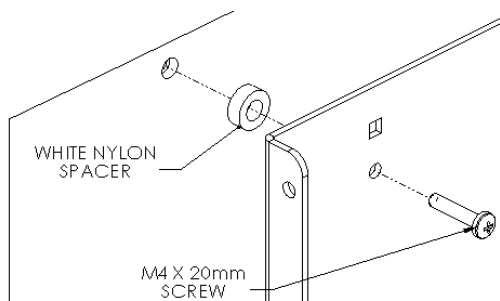
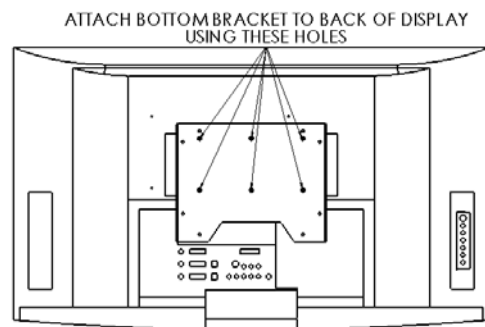

**Figure 2**
**Figure 3**
1. Using a 10-24 button head cap screw inserted from back side of top bracket, secure mounting button, with chamfered hole of mounting button (larger surface) facing bracket, bracket (four places) (see Figure 2 and Figure 3).